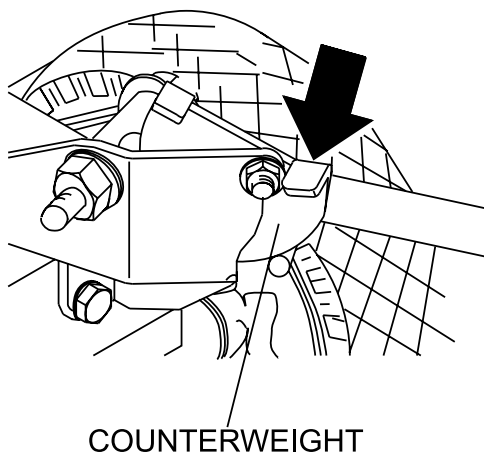

Figure 20. Outriggers (Released)
6. To unlock outriggers, push downward on the counterweight lever indicated by arrow (Figure 20).